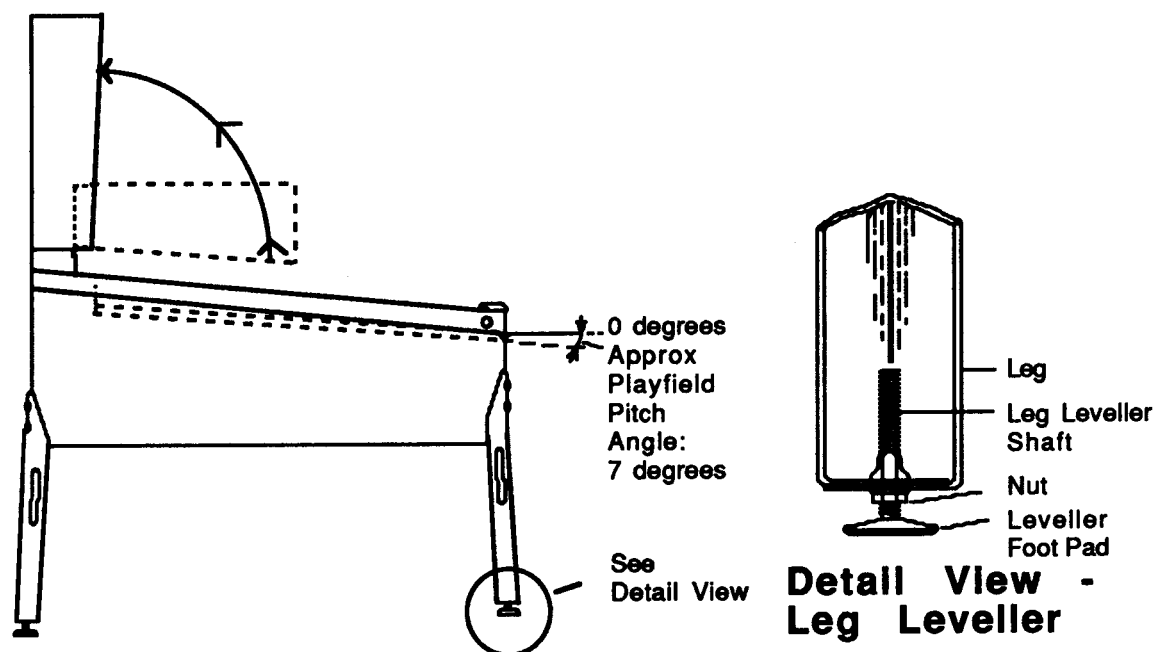

Figure 3. Pinball Assembly, Playfield Pitch Angle, and Leg Leveler Details.
3. Attach the front legs (after installing leg levellers), using leg bolts. See Figure 3 for details.
6. Adjust the leg levellers for proper playfield level (side-to-side) and playfield pitch angle (incline) of approximately 7 degrees. (Again, it is recommended that these measurements be made ON the playfield, not the cabinet nor the playfield cover glass.) Tighten the nut on each leg leveller shaft to maintain this setting, as shown in Figure 3.